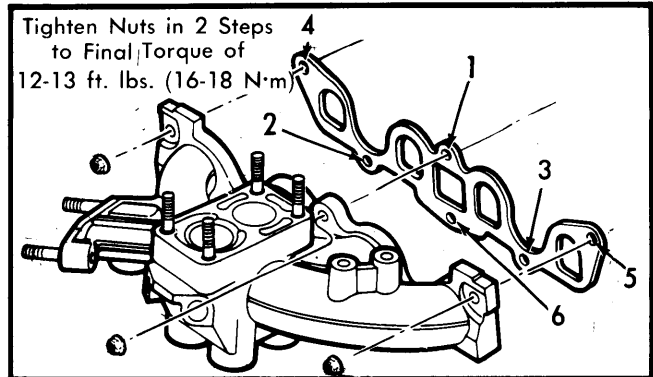

Fig. 1 1.6L Engine Intake Manifold Tightening Sequence
4) Remove the bottom 3 intake manifold nuts, locations 2, 3 and 6. See Fig. 1. Lower vehicle. Disconnect fuel lines. Disconnect accelerator and, if equipped, speed control cable.
Installation — Clean all mating surfaces on manifold and on cylinder head. Tighten nuts in 2 steps as shown in Fig. 1. To complete installation, reverse removal procedure.